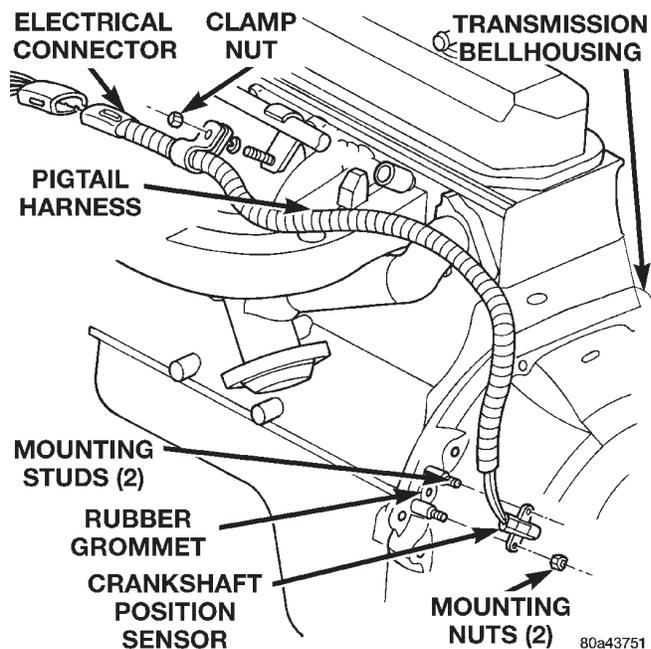

Fig. 6 Crankshaft Position Sensor—2.5L Engine
- (7) Mark front propeller shaft, axle, and transfer case yokes for installation alignment, if equipped.
- (8) Remove propeller shaft(s).
- (9) Unclip wire harnesses from transmission and transfer case, if equipped.
- (10) Disconnect transfer case vent hose, if equipped.
(11) Disengage any wire connectors attached to transmission or transfer case, if equipped, components.
(12) Support transfer case, if equipped, with transmission jack.
(13) Secure transfer case, if equipped, to jack with safety chains.
(14) Disconnect transfer case shift linkage at transfer case, if equipped.
(15) Remove nuts attaching transfer case to transmission, if equipped.
(16) Remove transfer case, if equipped.
(17) Remove crankshaft position sensor (Fig. 6), (Fig. 7).